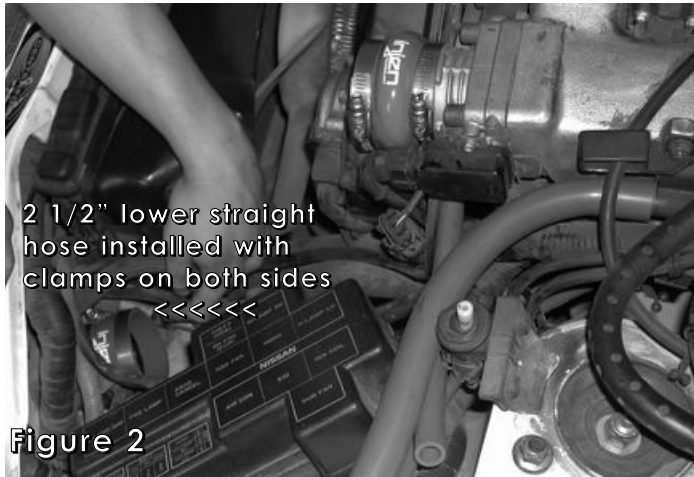

Figure 2
- 4- Place the 2 1/2" straight hose in the lower section as indicated in figure 2 and use as indicated in figure 2 and use 2 clamps on each straight hose. Place the hump hose on the throttle bodies as indicated in figure 1 and use 2 clamps on each hump hose and tighten the clamp on each throttle body.